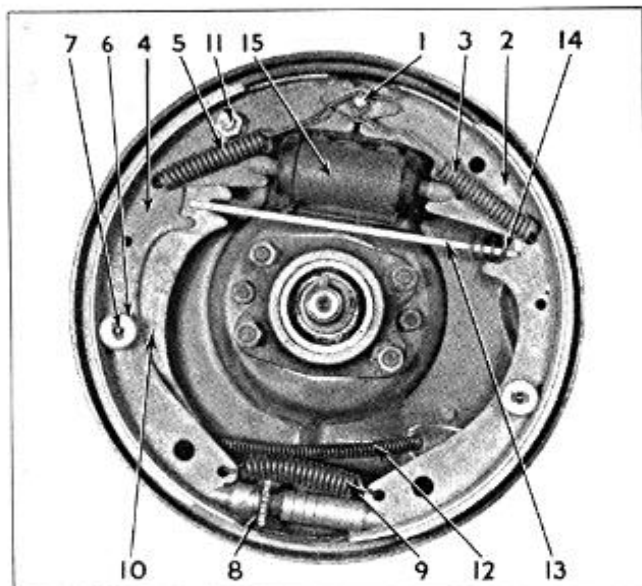

Figure 2—Single Anchor Brake
bly is mounted, the primary shoe (2, Fig. 2) is always "ahead" of the anchor (1) in the direction of the forward rotation of the drum, and transmits servo action to the secondary shoe (4) through the adjusting screw (8) during a forward braking application.